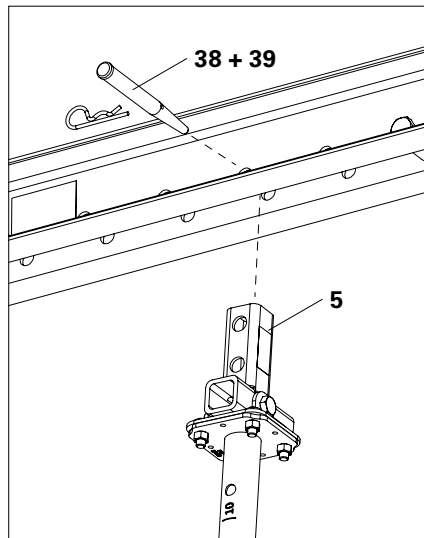

Fig. B5.06a
1. Mount slab props complete with pre-assembled Cross Swivel head (5) to Cross Beam (22b) using fitting pins (38) and cotter pins (39). (Fig. B5.06a + B5.06b)